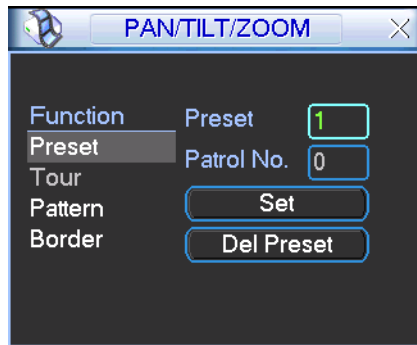
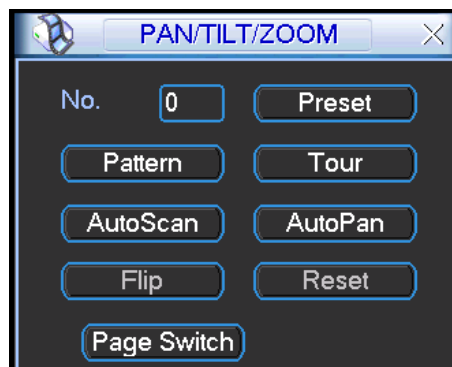
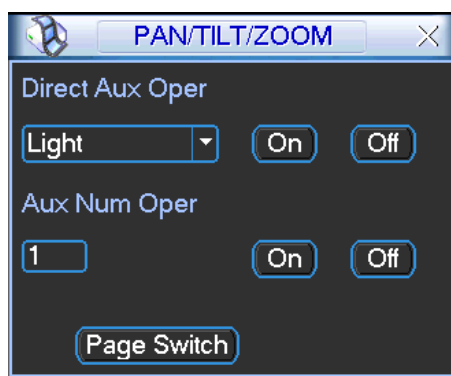

Figure 5-26
Figure 5-27
Figure 5-32
In Figure 5-24, please click the “set” button. The interface is shown as below. See Figure 5-26. Here you can set the following items:
In Figure 5-24, click page switch button, the interface is shown as in Figure 5-27. Here you can activate the following functions:
- The following setups are usually operated in the Figure 5-24, Figure 5-26 and Figure 5-27.
In Figure 5-26, click preset button and input preset number. The interface is shown as in Figure 5-28.
In Figure 5-27, please input preset number in the No. blank, and click preset button.
In Figure 5-26, click patrol button. The interface is shown as in Figure 5-29. Input preset number and add this preset to a patrol (tour). For each patrol (tour), you can input max 80 presets.
In Figure 5-26, input patrol (tour) number in the No. blank and click patrol button
In Figure 5-26, click pattern button and then click “begin” button. The interface is shown as in Figure 5-30. Then you can go to Figure 5-24 to modify zoom, focus, and iris.
In Figure 5-27, input mode value in the No. blank, and click pattern button.
In Figure 5-27, click "Auto Scan" button, the system begins auto scan. Correspondingly, the auto scan button becomes Stop button. Click stop button to terminate scan operation.
In Figure 5-27, click page switch button, you can see an interface is shown as below. See Figure 5-32. Here you can set auxiliary function. The aux value has relationship with the Aux button of the decoder.